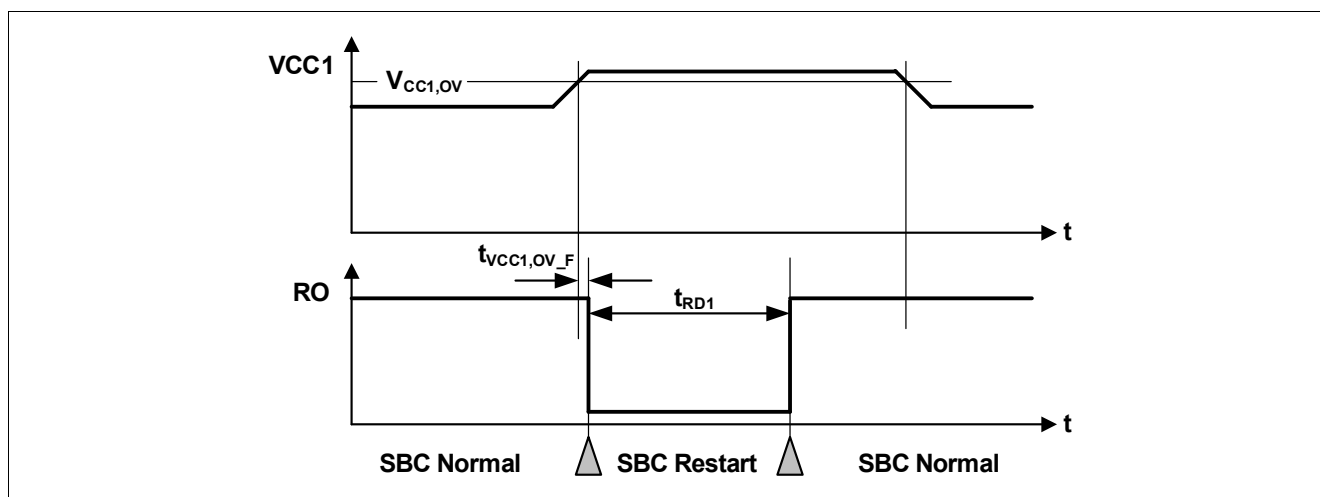

Figure 53 VCC1 Overvoltage Timing Diagram
- If the bit **VCC1_OV_RST** is set and **CFGP** = '1', then SBC Restart Mode is entered. The FOx outputs are activated. After the reset delay time (t_{RD1}), the SBC Restart Mode is left and SBC Normal Mode is resumed even if the VCC1 overvoltage event is still present (see also **Figure 53**). The **VCC1_OV_RST** bit is cleared automatically;